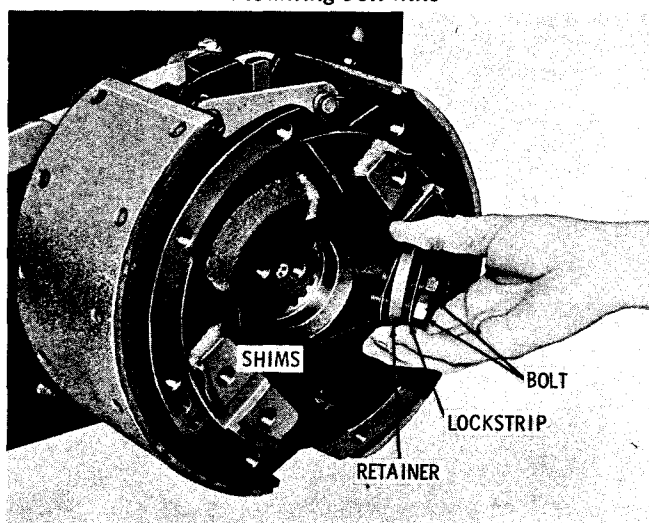

Fig. 7-126. Installing output flange retaining parts S1630
(16) Install the flange, shims, washer, lockstrip and two 1/2-20 x 1 1/4-inch bolts (fig. 7-126). Refer to paragraph 4-8b for installation instructions.